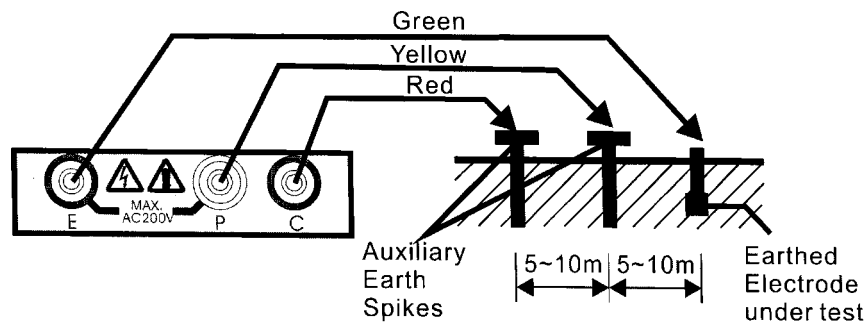

Fig.1
- Follow the proper connection such as Fig. 1. The LED indicator will lit (red). This proves a correct current circulation is under its operation.
- **The LED in front face will lit in red, when the measuring configuration is as shown in figure 1.**